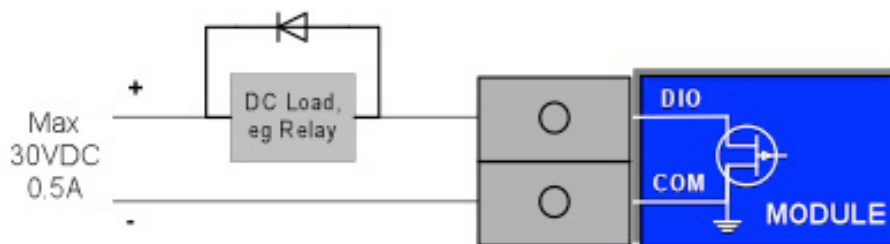

Figure 10
- If the O/P is On (Closed contact), Communications is good (OK).
- It can be used to switch a load, as indicated by the relay in Figure 10.